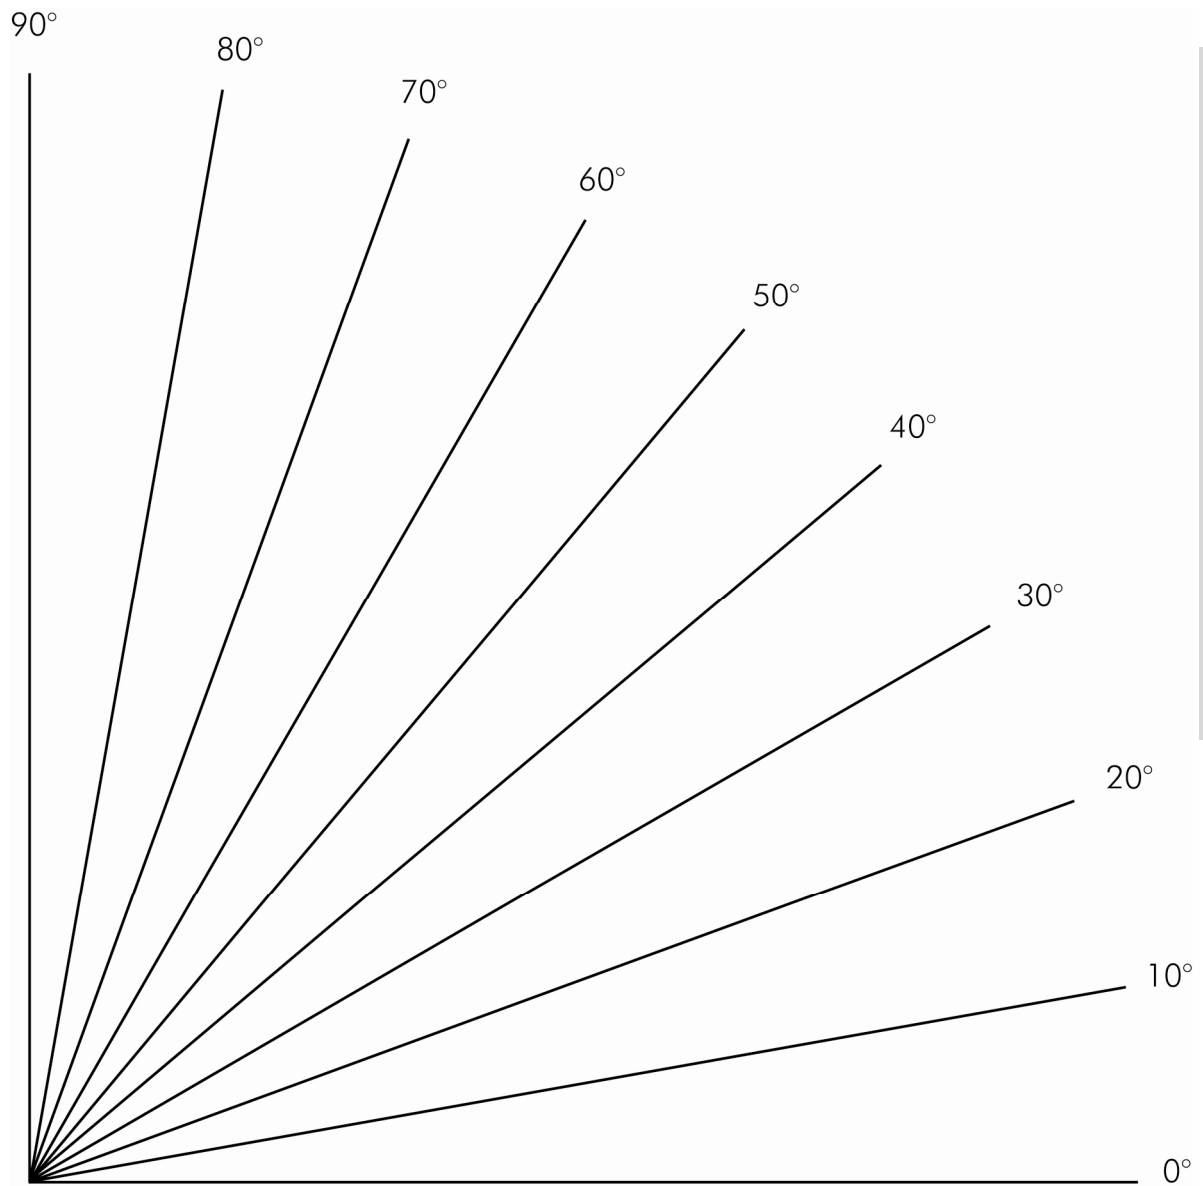

Fig. 5-10 Template for solar panel orientation
13. Using your protractor template (see *FIG. 5-10* on page 45), ad-